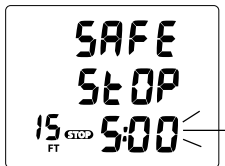

Fig. 34 - SET NO DECO
**SET NOR SAFETY STOP**, information includes (Fig. 34):